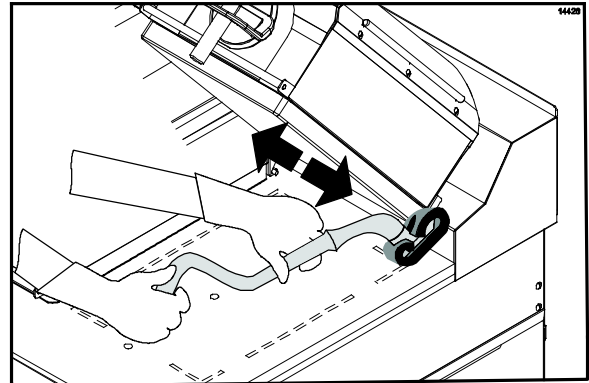

Figure 58
26. Scrub the back side of the platens from the right platen to the left platen. (See Figure 58.)